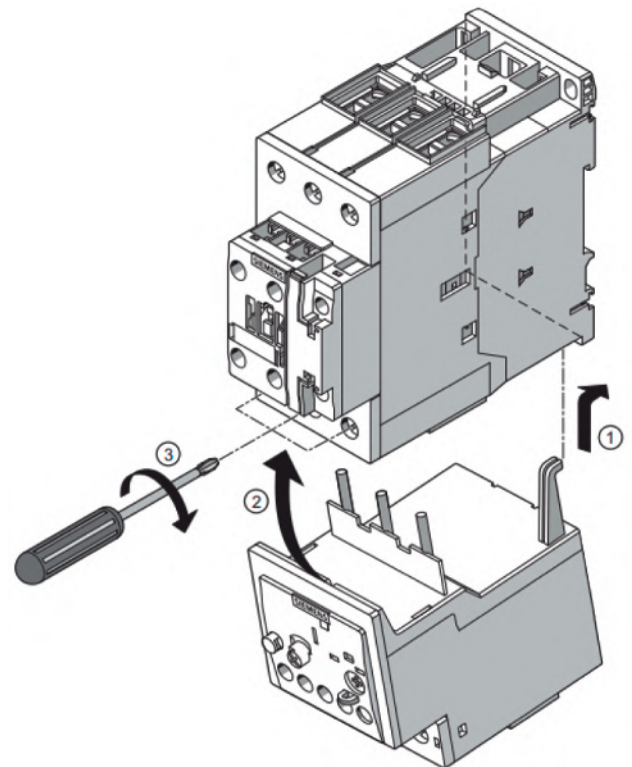

Figure 1
- a. Couple the OLR to the contactor as shown in Figure 1.